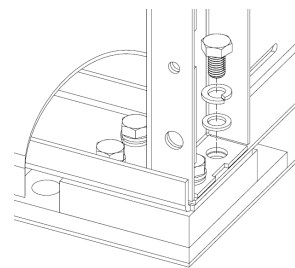

FIGURE 3a
2. Fasten the module to the base weldment as shown in Figure 3a. All 16 holes must be used. Torque bolts to 75 ft-lbs.